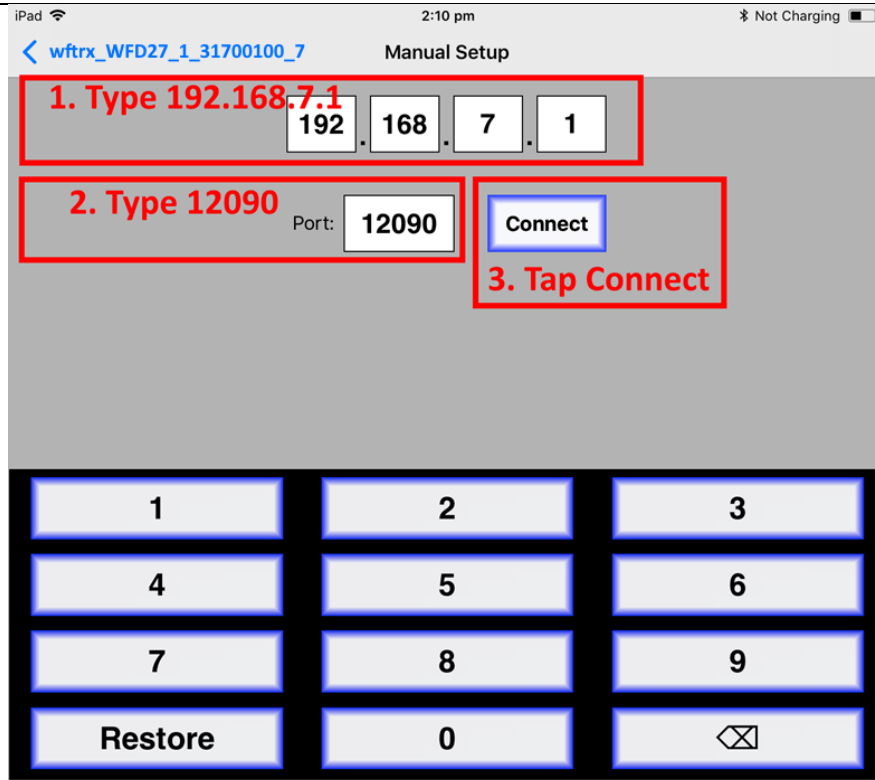

Figure 7 Connect manually if needed
- (9) If for some reason there is nothing in the “Available WiThrottle Servers” list, tap “Configure” or “Search for Wi-Fi Modules” and follow a. or b below.
- Configure: The WFD-27 always has the IP Address 192.168.7.1 on its own access point, so type this IP Address. Then type 12090 into the Port textbox and tap the Connect button as Figure 7. The green network LED on your WFD-27 should now flash regularly to show that the app is communicating with it.